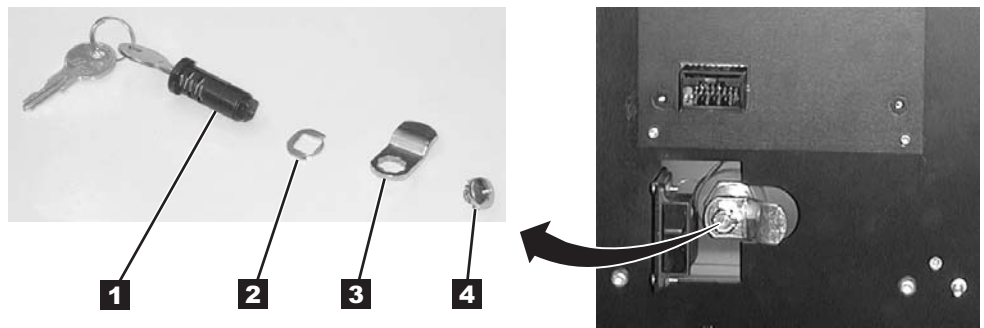

Figure 8-46. Door Lock Assembly, Remove/Replace
See Figure 8-46 for location of components in following procedure.
4. See Figure 8-46, note the position of the latch **3**. Latch must be in the same position during replacement as during removal.